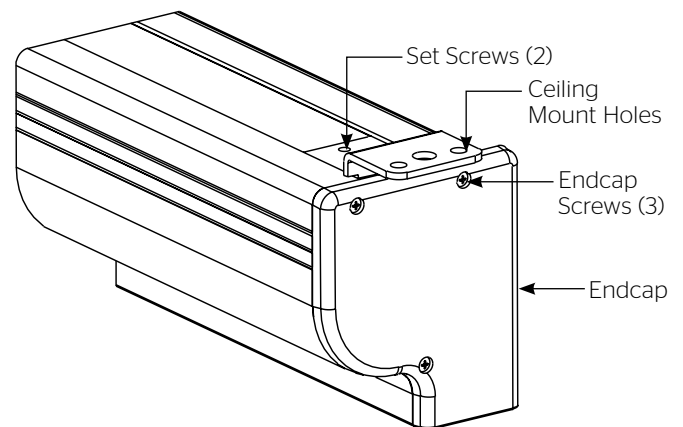

Figure 2
3. The top of the screen case has a channel that the ceiling mount brackets slide into. Remove the end cap on the right end of the case and insert the brackets into the case channel. Lock the brackets in place by tightening two set screws. Refer to figure 2. Mount can not be more than 12" from end of case.